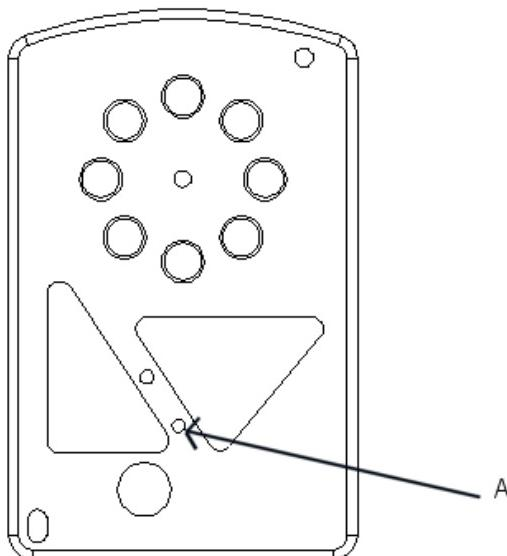

Figure 2: Test FMS, IRR Plunger Location
- 2.2.3.3.2 Place small plastic alignment tool (blunt end) through IRR hole in test FMS (Marked "A" in Figure 2). And hold with force to restrict valve plunger from moving.